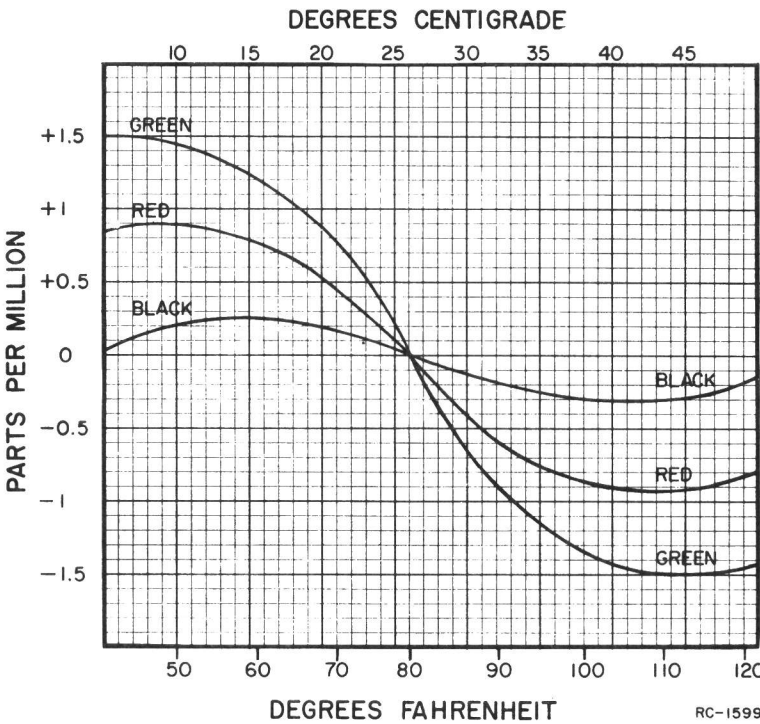

Figure 6 - ICOM Correction Curves
- If the temperature is not within the 80°F ($\pm 4^\circ$ F) or 26.5°C ($\pm 2^\circ$ C) range, use the correction curves of Figure 6 for setting the ICOM frequency as follows:
- Multiply the frequency stenciled on the ICOM by 4 and then multiply this figure by the correction factor (from Figure 6) observing the sign (\pm) given to the correction factor.
(From Figure 6)